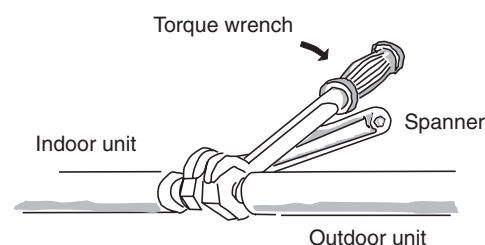

Fig. 1-115
- When removing the flare nuts from the tubing connections, or when tightening them after connecting the tubing, be sure to use 2 adjustable wrenches or spanners. (Fig. 1-115)